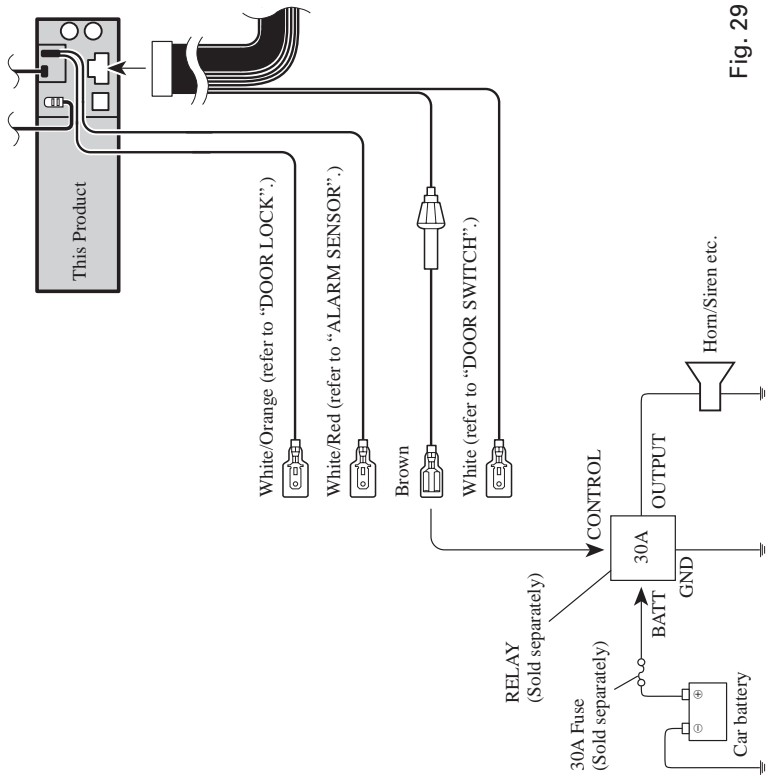

Fig. 29
- Brown (ALARM OUTPUT)** (Fig. 29)